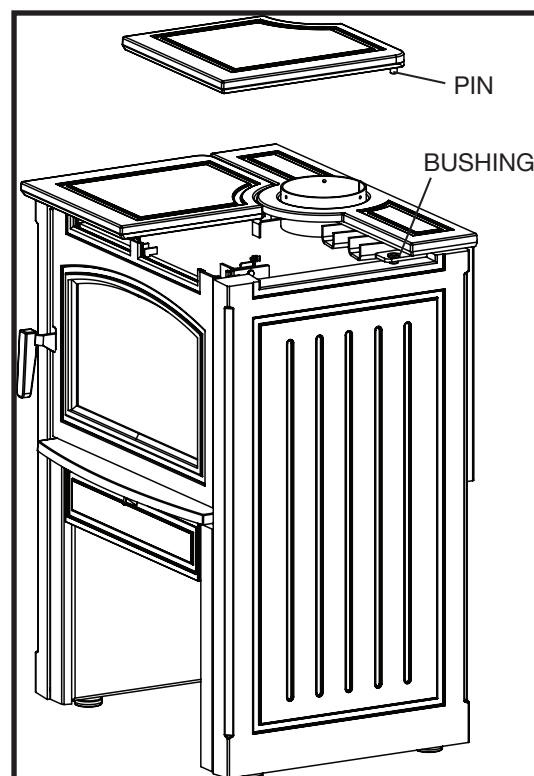

Figure 3: Top assembly removal and installation.
2. The Top Wings can be removed by lifting and rotating back and forth. This will slowly slide the pin from the bushing in the mounting bracket (Figure 3).